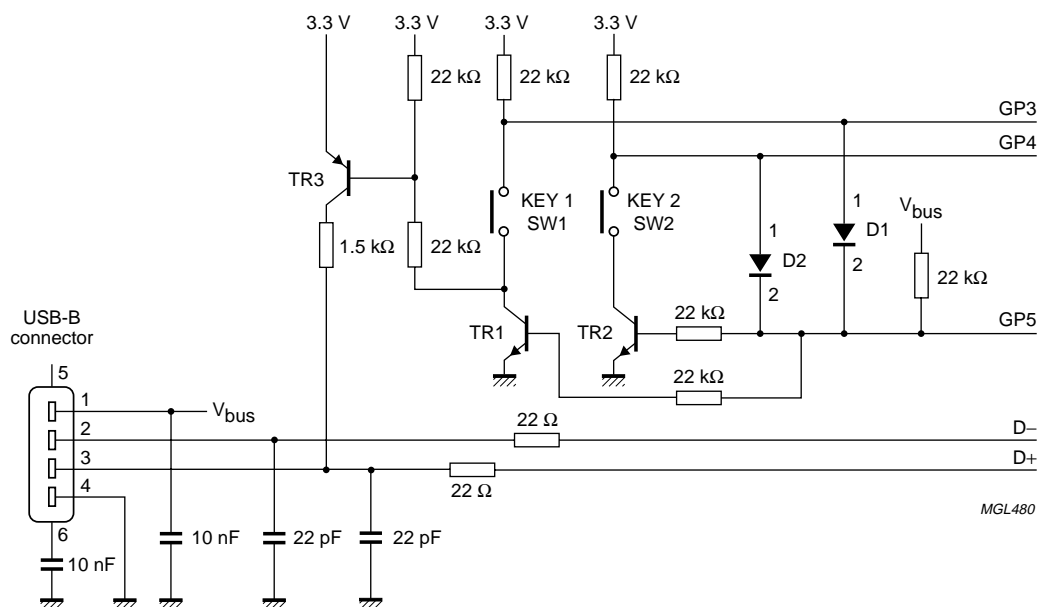

Fig.5 Diode matrix selection.
The UDA1335H uses a configuration map to hold a number of specific configurable data on hardware, product, component and USB configuration level. At start-up, without EEPROM, the UDA1335H will scan the logic levels of GP3 and GP4. With these two GP pins it is possible to select one of the four possible configuration maps which are held in the external (E)PROM. This selection can be achieved via a diode matrix (see Fig.5).